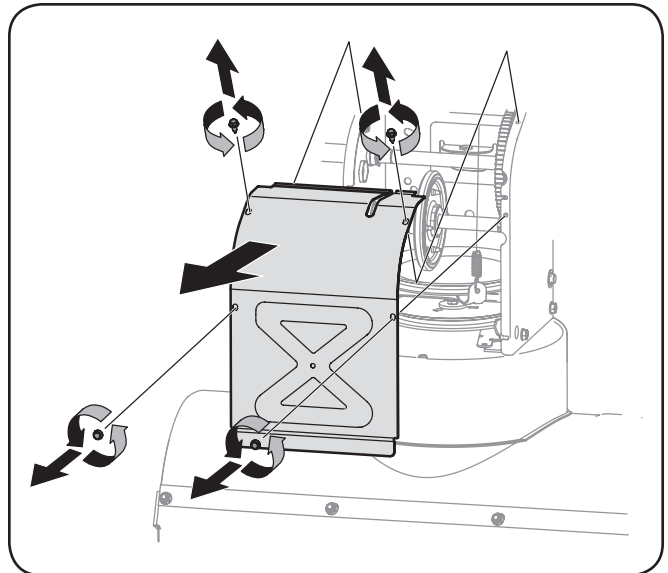

Figure 7-3
3. Remove the frame cover from the underside of the snow thrower by removing the self-tapping screws which secure it. Refer to Figure 7-3 in the Service section.
5. Remove the frame cover from the underside of the snow thrower by removing the self-tapping screws which secure it. See Figure 7-3.